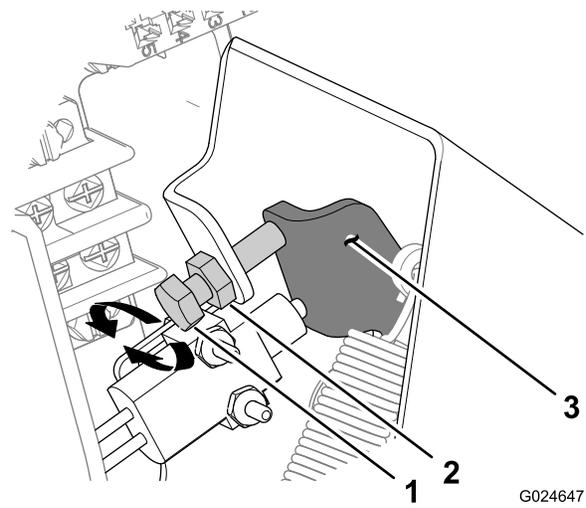

Figure 89
- A. Loosen the jam nut that secures the accelerator-pedal stop (Figure 89).
- Clockwise to increase the pedal-free travel (Figure 89).
- Counterclockwise to decrease the pedal-free travel (Figure 89).
- C. Tighten the jam nut (Figure 89).
- D. Repeat steps 1 through 4 to measure the pedal-free travel (Figure 89).